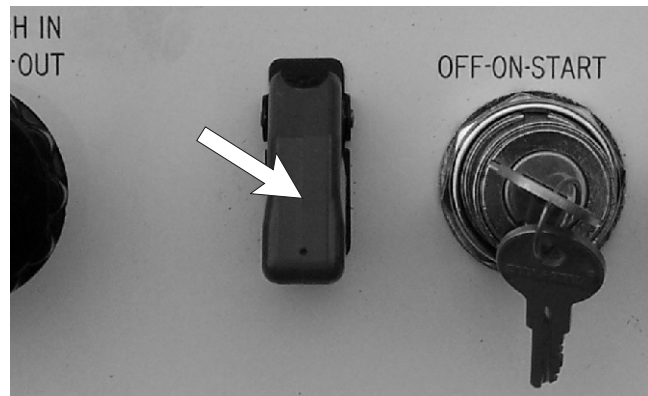

Figure 7.4 - Emergency Stop Switch, Lower Controls
1. **Emergency Stop:** Press the red switch cover down at any time, under any conditions, and the entire machine stops - the engine turns off and nothing moves. This switch must be up (on) to start and run the EPV. (see Figure 7.4)